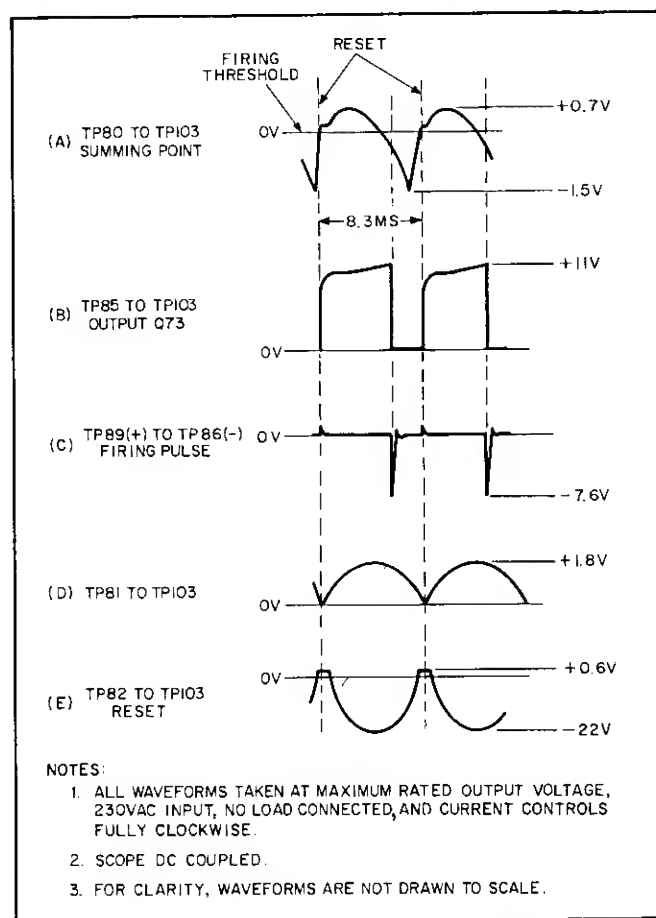

Figure 4-4. Preregulator Control Circuit Waveforms
4-24 The summation of these input signals results in a voltage waveform at TP80 similar to that shown in waveform (A) of Figure 4-4. When the linear ramp portion of the waveform reaches a certain negative threshold, diodes CR74 and CR75 become forward biased. These diodes couple a negative voltage to the base of transistor Q72. Transistors Q72 and Q73 form a bistable circuit similar to a Schmitt trigger. Prior to firing time, Q72 is conducting due to the positive bias supplied to its base through R84. Transistor Q73 is cut off because its base is driven negative by the collector of Q72.